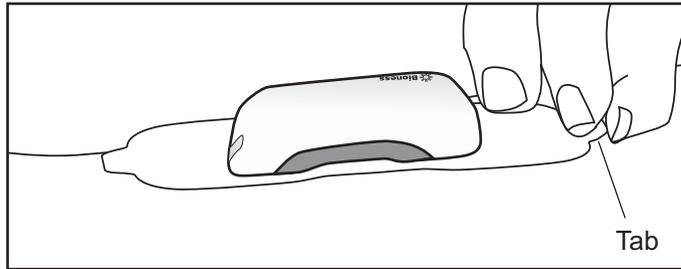

Figure 8-5: Grasp the tab on the StimRouter Electrode to remove.
2. Grasp the tab on the StimRouter Electrode and gently pull the electrode away from the skin. See Figure 8-5.